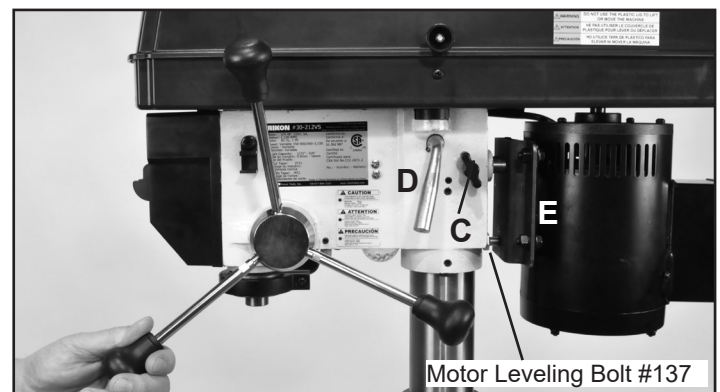

FIG. 7
4. Install the three feed Handles (#58) into the pre-threaded holes in the Handle Seat (#86). Use the 8mm end of the Special Wrench (#131) to secure the handles in place. FIG. 7.